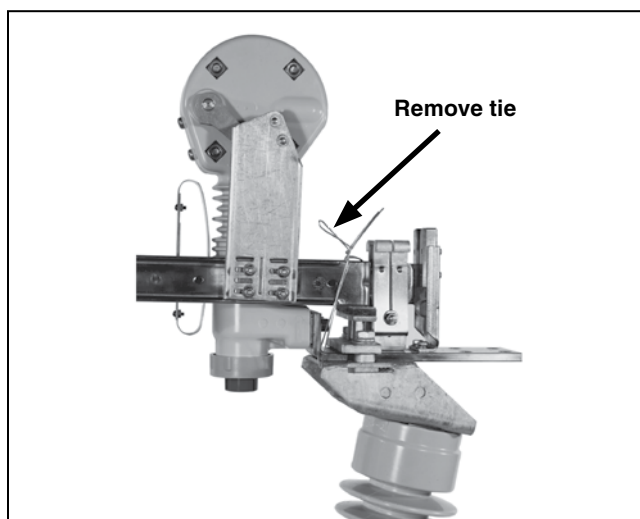

Figure 12. Removing the tie at the stationary main contact assembly.
STEP 22. Remove the ties holding the switch blades to their stationary main-contact assemblies. See Figure 12.